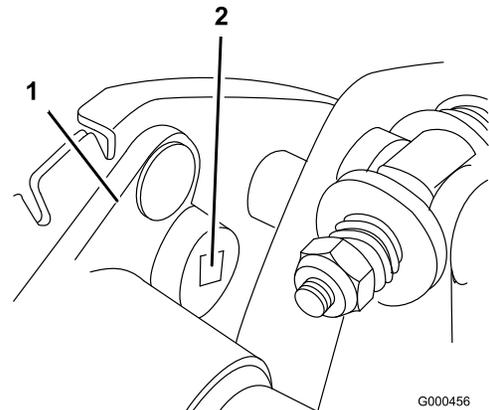

Figure 40
- B. Using a $3/8$ inch drive torque wrench, rotate the bearing housing with 35-40 in.-lb. of torque to set belt tension (Figure 40)